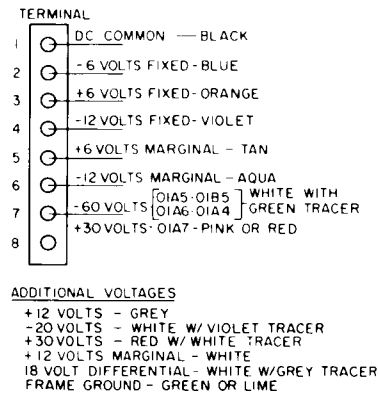

Figure 15. Voltage Terminal Block
3. Select one of the affected gates. Drop the power and make the following changes at gate voltage terminal block. (Refer to Figure 15 located to the left of Row A.)
- b. Disconnect the external voltage (violet) wire and connect one end of the jumper to the -12 volt terminal on the gate voltage terminal block (Figure 15). Be certain the violet wire is positioned so that it does not short to frame, or other connections.